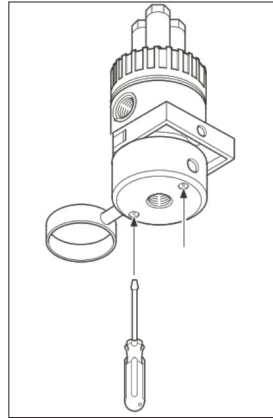

Fig. 5: Locking screws location
1. The plastic fittings have locking screws for the holder of the calibration dish (see fig. 5). These screws must be loosened before turning.